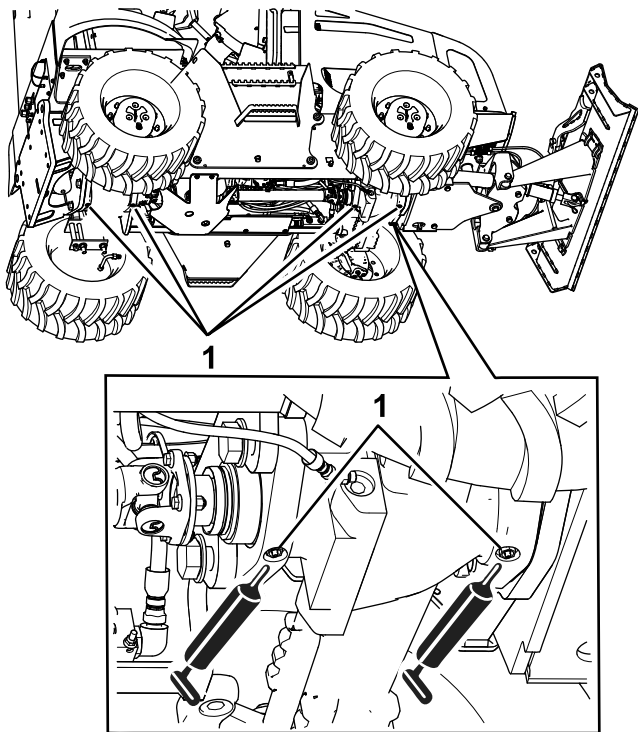

Figure 61
3. Connect the grease gun to the grease fittings for the forward- and rear-axle tilt pivots; apply 2 or 3 pumps of grease to each fitting (Figure 61).